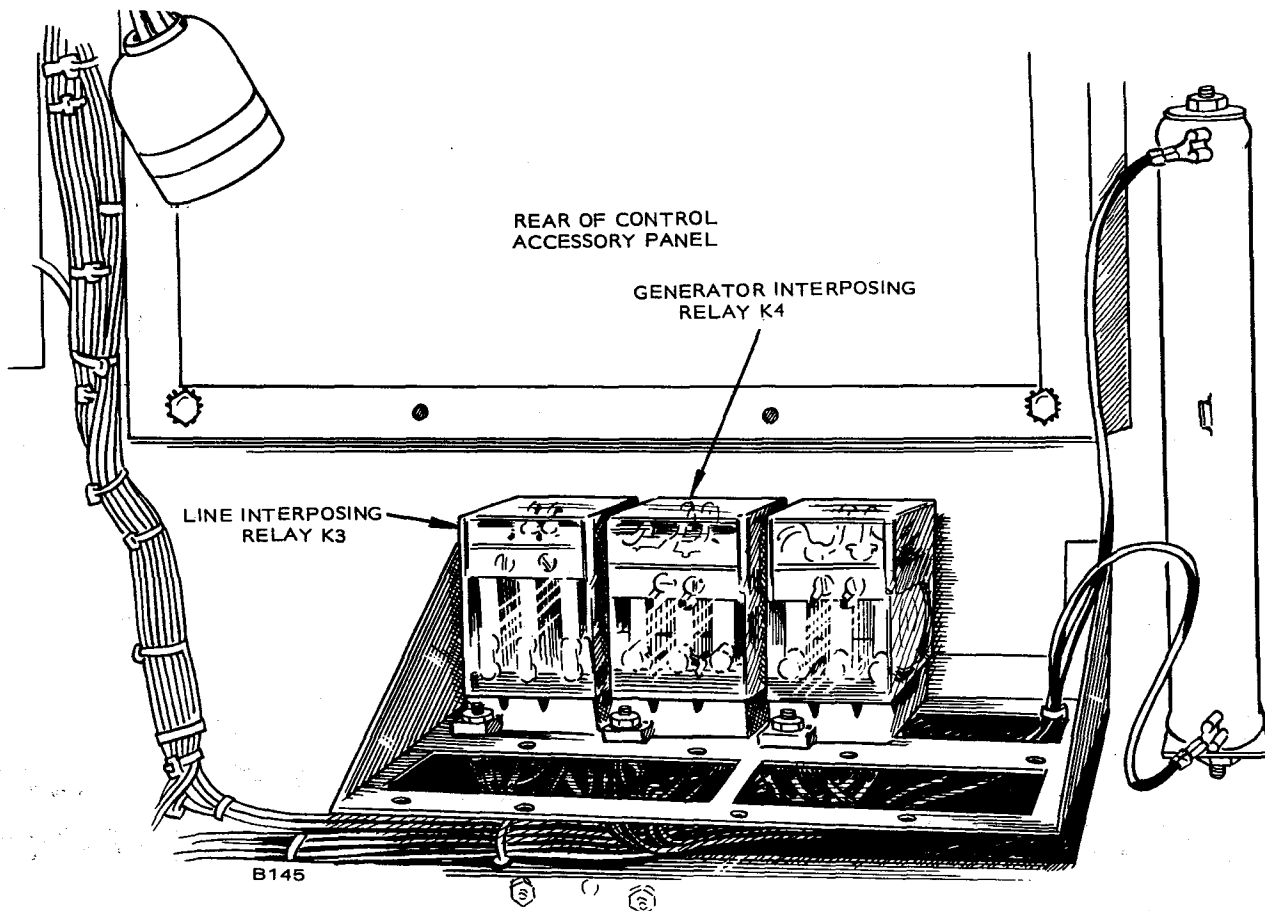

FIGURE 14. LOCATION OF INTERPOSING RELAYS
6. Locate generator interposing relay K4 (Figure 14).